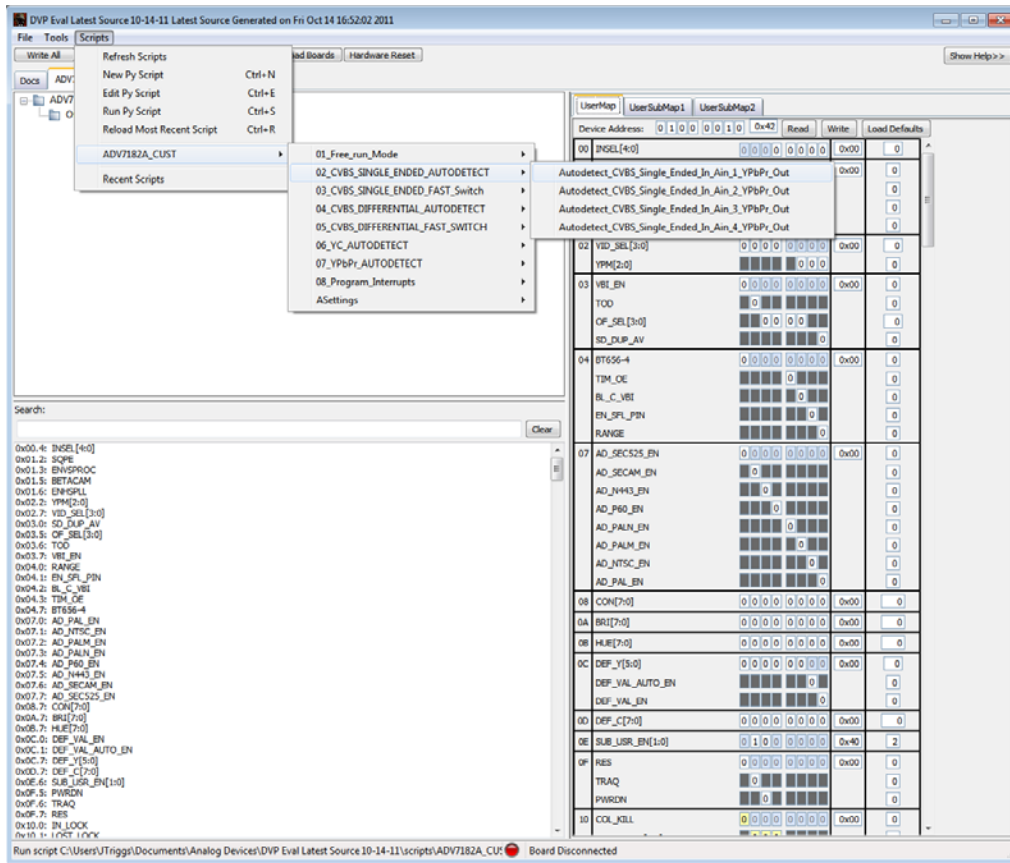

Figure 8. Running EVAL-ADV7182AEBZ Script on DVP Eval Software
5. Select **Scripts > ADV7182A_CUST** to select and run a script to configure the evaluation board (see Figure 8).
6. To monitor the registers of the **ADV7182A** or the **ADV7391**, click on the associated device tab within the **DVP Eval Software** (see Figure 8).